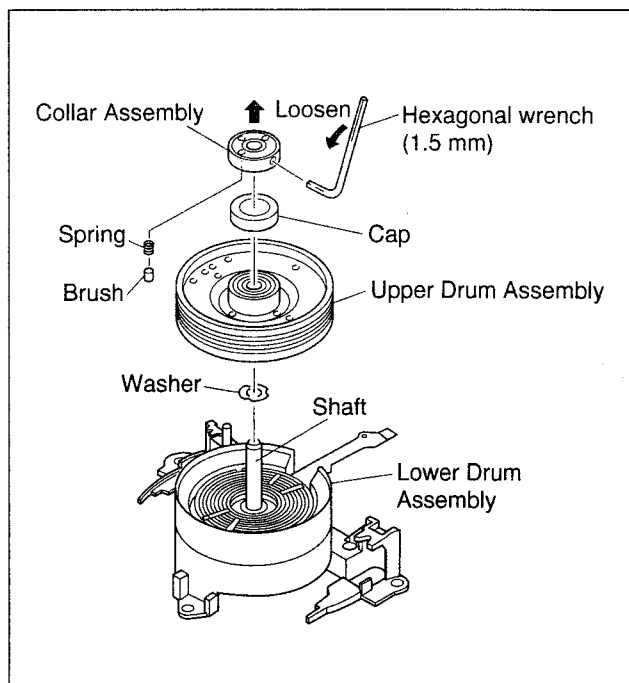

Fig. 2-5-25
- (1) Clean the coil sections of the lower drum assembly and new upper drum assembly using a tool such as an air brush.
- (2) Attach the new washer and upper drum assembly to the drum shaft. (See Fig. 2-5-25.)